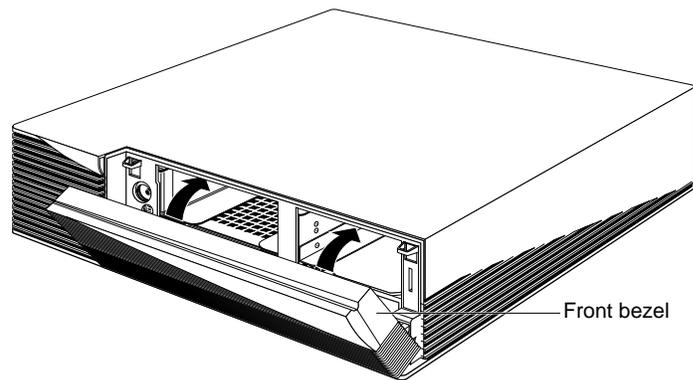

Figure 2-9 Replacing the Front Bezel on the CHALLENGE M Chassis
- Place the tabs on the bottom of the bezel in the grooves in the front of the chassis, as shown in Figure 2-9.